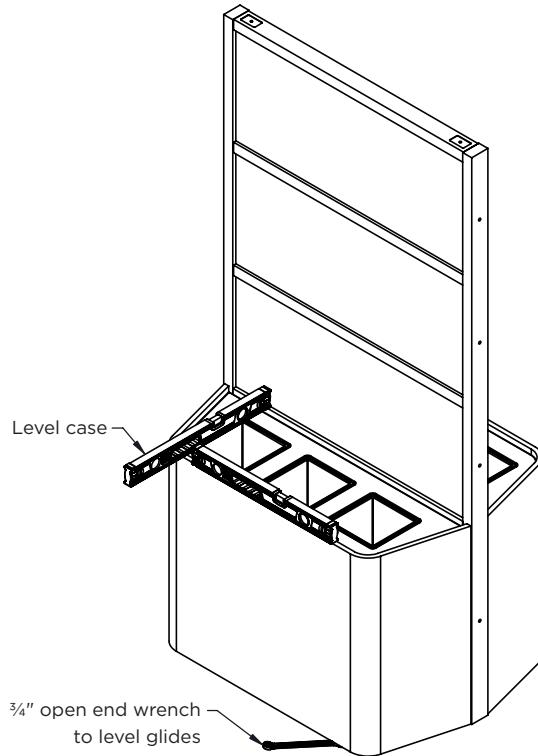

Figure 5A
1. Start with the middle unit in the ganging series. Position in the final install location and level unit with the glides. A  $\frac{3}{4}$ " open end wrench can be used to adjust the glide. (Figure 5A)